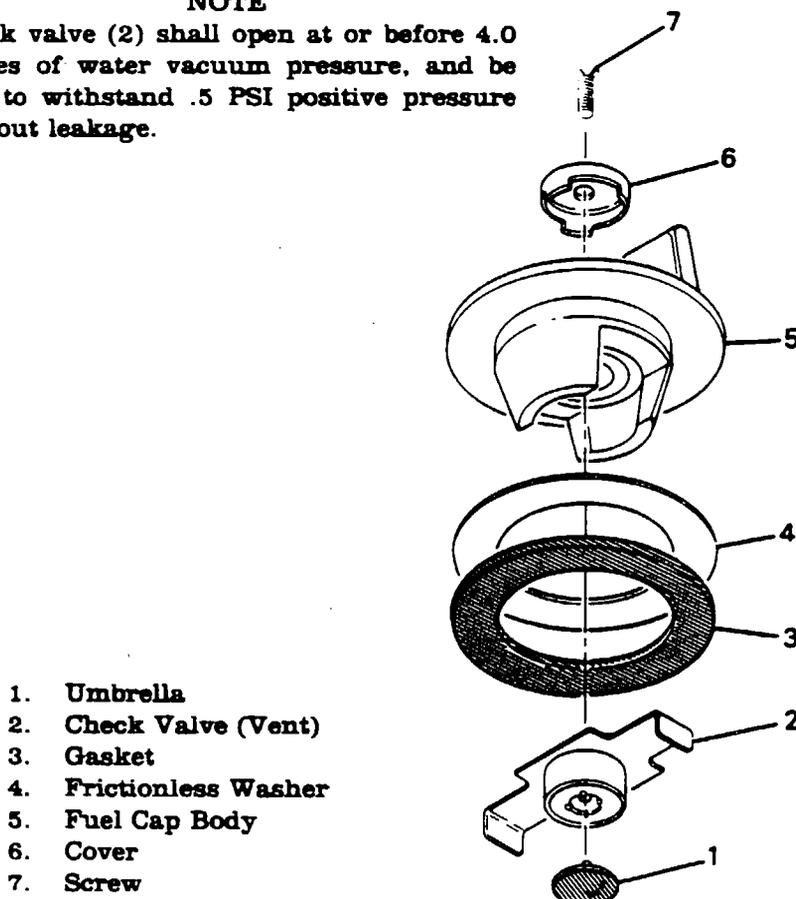

Figure 12-12. Vented Fuel Filler Cap
Protect drain holes and fuel outlet screens when applying sealants. DO NOT plug drain channels between stiffeners (4) at inboard end of stringers (5) on lower skin (6). See figure 12-12 (typical lower skin section).